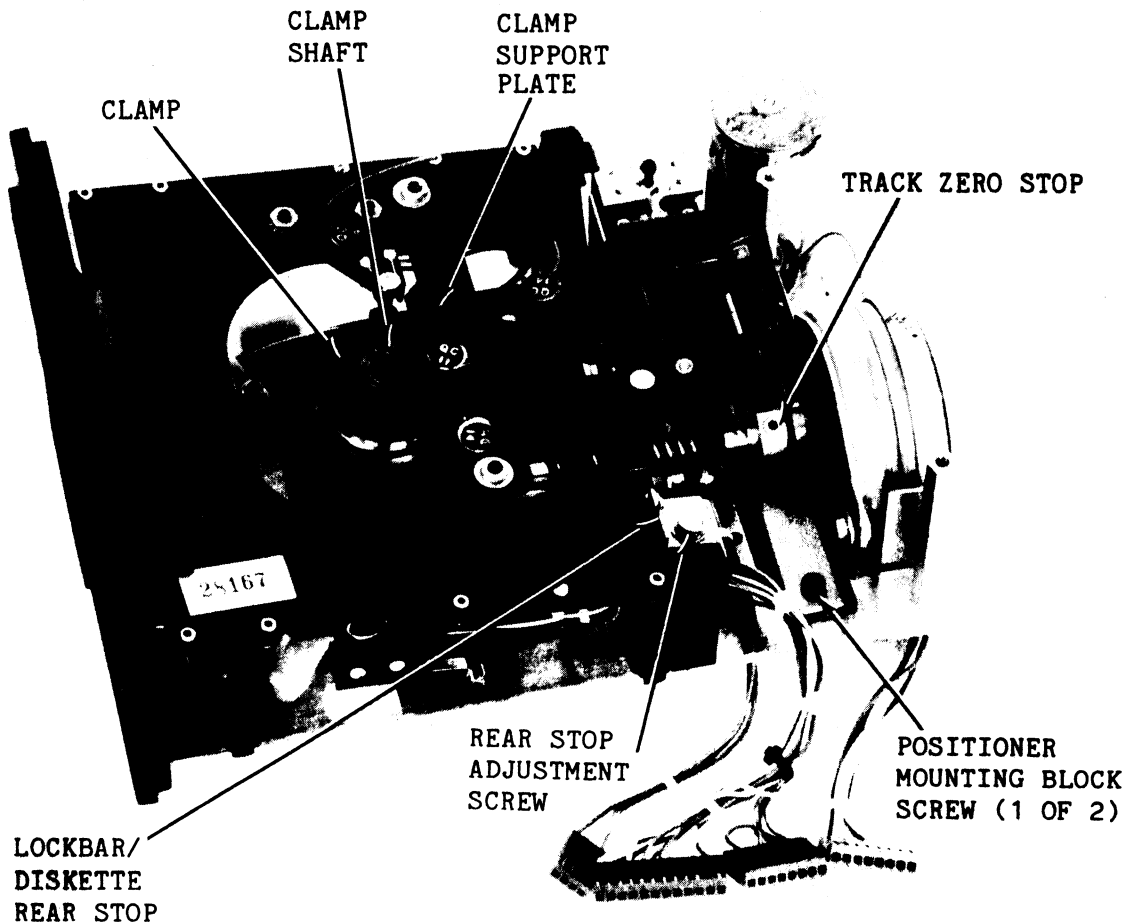

Figure 4-10. Drive Mechanism, Top Rear View
- h. The track zero stop (see Figure 4-10) should be set so that when the head is positioned at track zero, the positioner cannot move more than one-third of a step behind track zero. If necessary, loosen the track zero stop set screw and reset the stop so that the drive screw can rotate 5° to 10° past track zero before the carriage hits the stop. The 5° to 10° free movement must be provided to prevent the head carriage from hitting the stop due to overshoot when positioning to track zero normally.
- f. Loosen the positioner mounting block screws (see Figure 4-10) so the block can be moved.
The diskette rear stop (see Figure 4-10) positions the diskette with respect to the spindle. The rear stop also serves to eject the diskette when it is being removed.